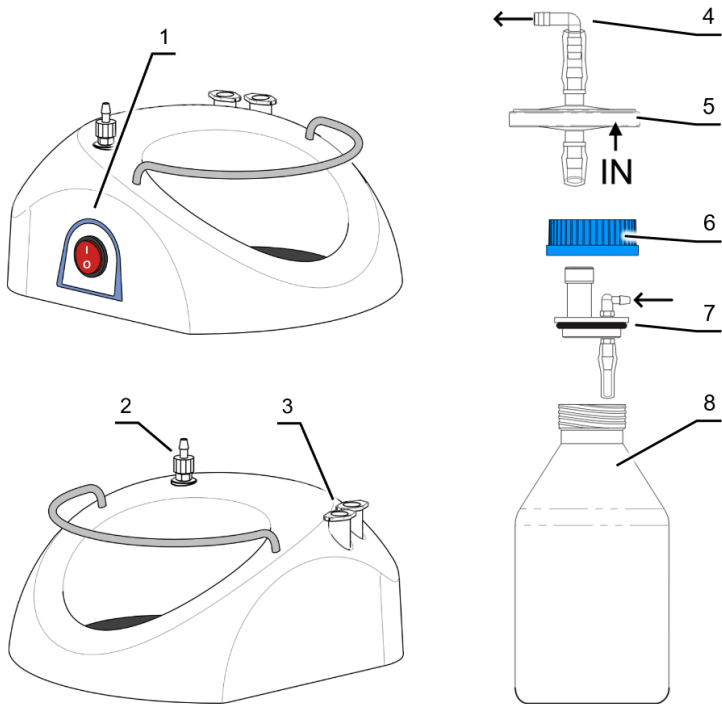

Figure 1. FTA-1, base and bottle.
Microtube placements on FTA-1 , see fig. 1/3
- Install the trapping flask (fig. 1/8) on the unit.
- Check that the insert (fig. 1/7) is in the lid (fig.1/6). Secure the lid onto the trapping flask. Insert the hydrophobic filter set (fig. 1/5) into the lid.
- Check the tube connections: filter to bottle (fig. 1/2 and 1/4), bottle to aspiration tip (fig. 1/7 and fig. 2).
- Place the microtubes for aspiration tip into the holder (fig. 1/3).
4.3.1 **Optional MA-8 aspiration tip installation.** Remove microtubes and aspiration tip from the holders on the base (fig. 1/3). Place MA-8 storing holder into the unit base. Replace the aspiration tip with the **MA-8** aspiration tip. Store the aspiration tip in the new holder.
- 5.2 Turn the **Power** switch (fig. 1/1 or 7/2) to the position **I** (on). The pump starts working.